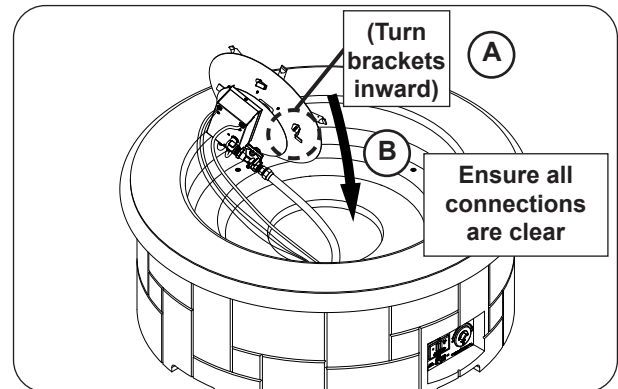

Fig. 34-2 Insert burner assembly
1. Ensure that the four burner brackets are turned inward, then insert the burner assembly (see Fig. 34-2, A-B).